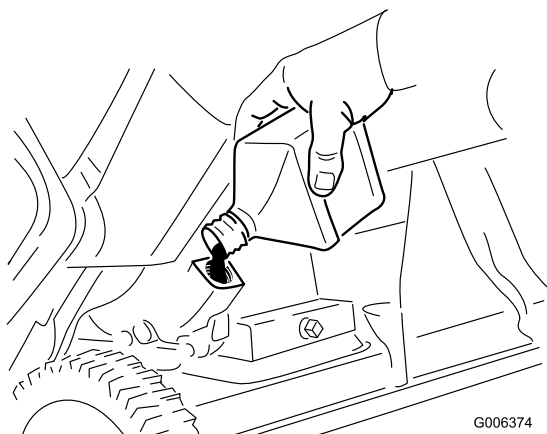

Figure 27
8. With the snowthrower in the operating position, **carefully** pour oil into the oil fill hole to the point of overflow (Figure 27).